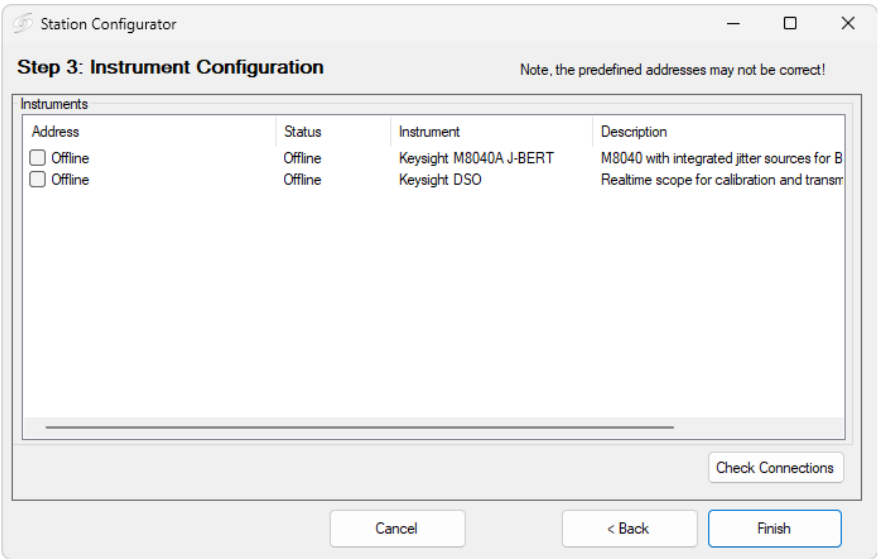
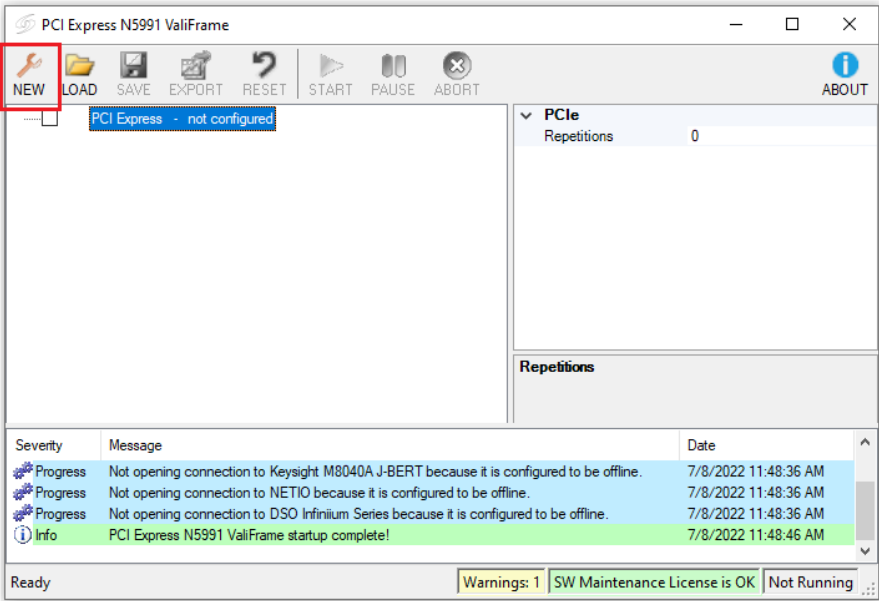

Figure 16 Instrument Configuration window (example for PCI Express)
Figure 18 ValiFrame GUI main window (example for PCI Express)
Once all required instruments have been selected, those are listed in the Instrument Configuration window (Figure 16).
- b Select the same instrument in the Instrument Configuration window of the ValiFrame Station Configurator (Figure 16) and paste the address in the corresponding Address text field.
The ValiFrame N5991 connects automatically to the instruments that are set to “Online” mode in the ValiFrame Instrument Configuration (see Figure 16). The application is ready for use once all the connections have been initialized successfully, and the main window will appear as shown in Figure 18.
The test parameters need to be configured before any test or calibration procedure is run. Click **NEW** (red box in Figure 18) to open the Configure DUT dialog.